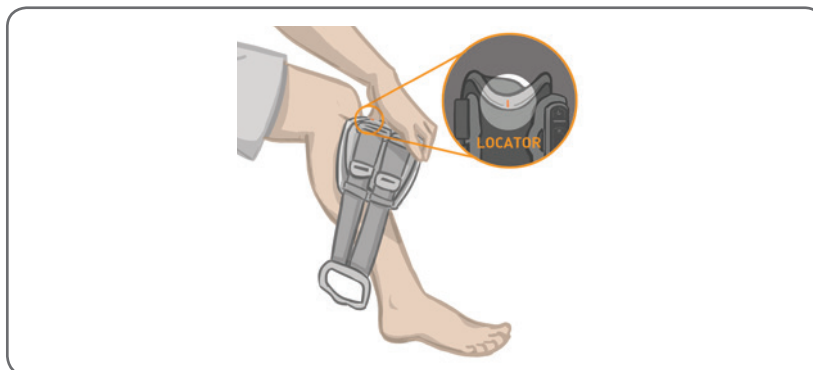
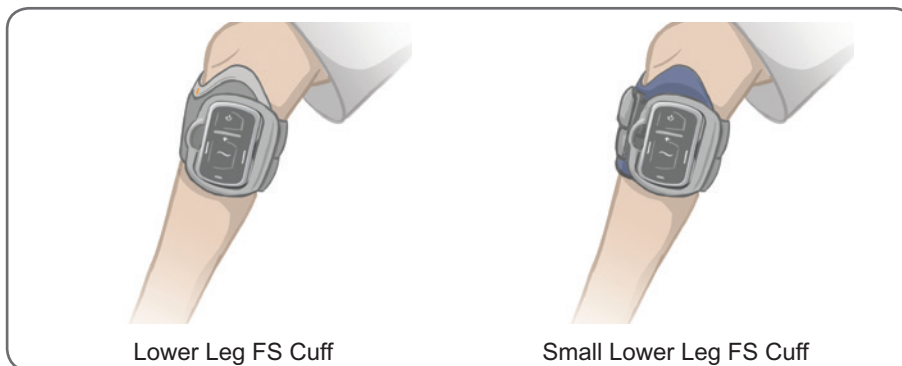

Figure 6-12: Positioning the Lower Leg FS Cuff on the Leg
Figure 6-14: Lower Leg FS Cuff fastened on the leg
2. Make sure the electrodes are securely attached. Then, grasp the front of the lower leg FS Cuff by the cradle and tilt the bottom of the FS Cuff up. Slide the locator up your leg until it rests snugly and comfortably below your kneecap. See Figure 6-12.
5. Make sure the lower leg FS Cuff is correctly positioned. See Figure 6-14. Reposition the lower leg FS Cuff as necessary. Adjust the hook and loop fasteners to ensure a snug fit. See Figure 6-12.